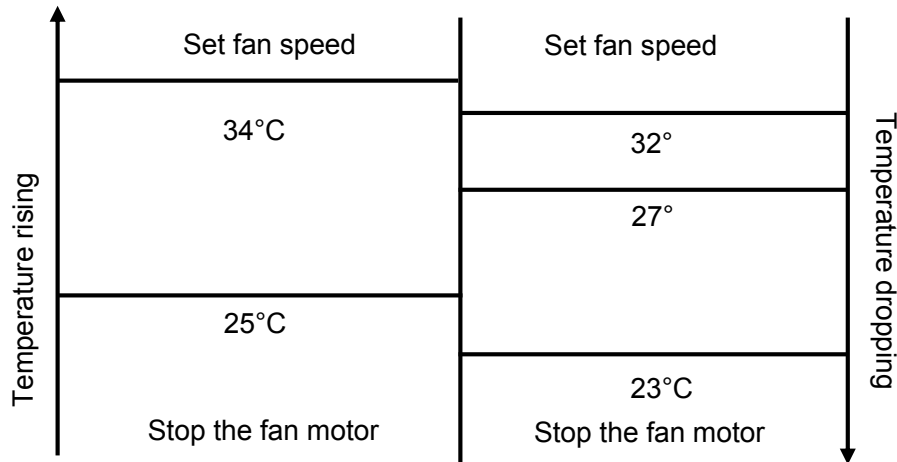

Figure 5 Cold air prevention
- a. When running into the heating mode, once the compressor fails to comply with the start-up conditions, the fan speed is regulated according to the coil temperature within 2 min, 2 min later the indoor fan motor stops. If the compressor starts up within 2 min, then operating according to Figure 5. Under heating process, while the compressor stop (including stopping for protection), the fan motor's operation (including stopping the indoor fan motor) is regulated according to the coil temperature within 1min, 1min later the fan will be stopped forcibly.